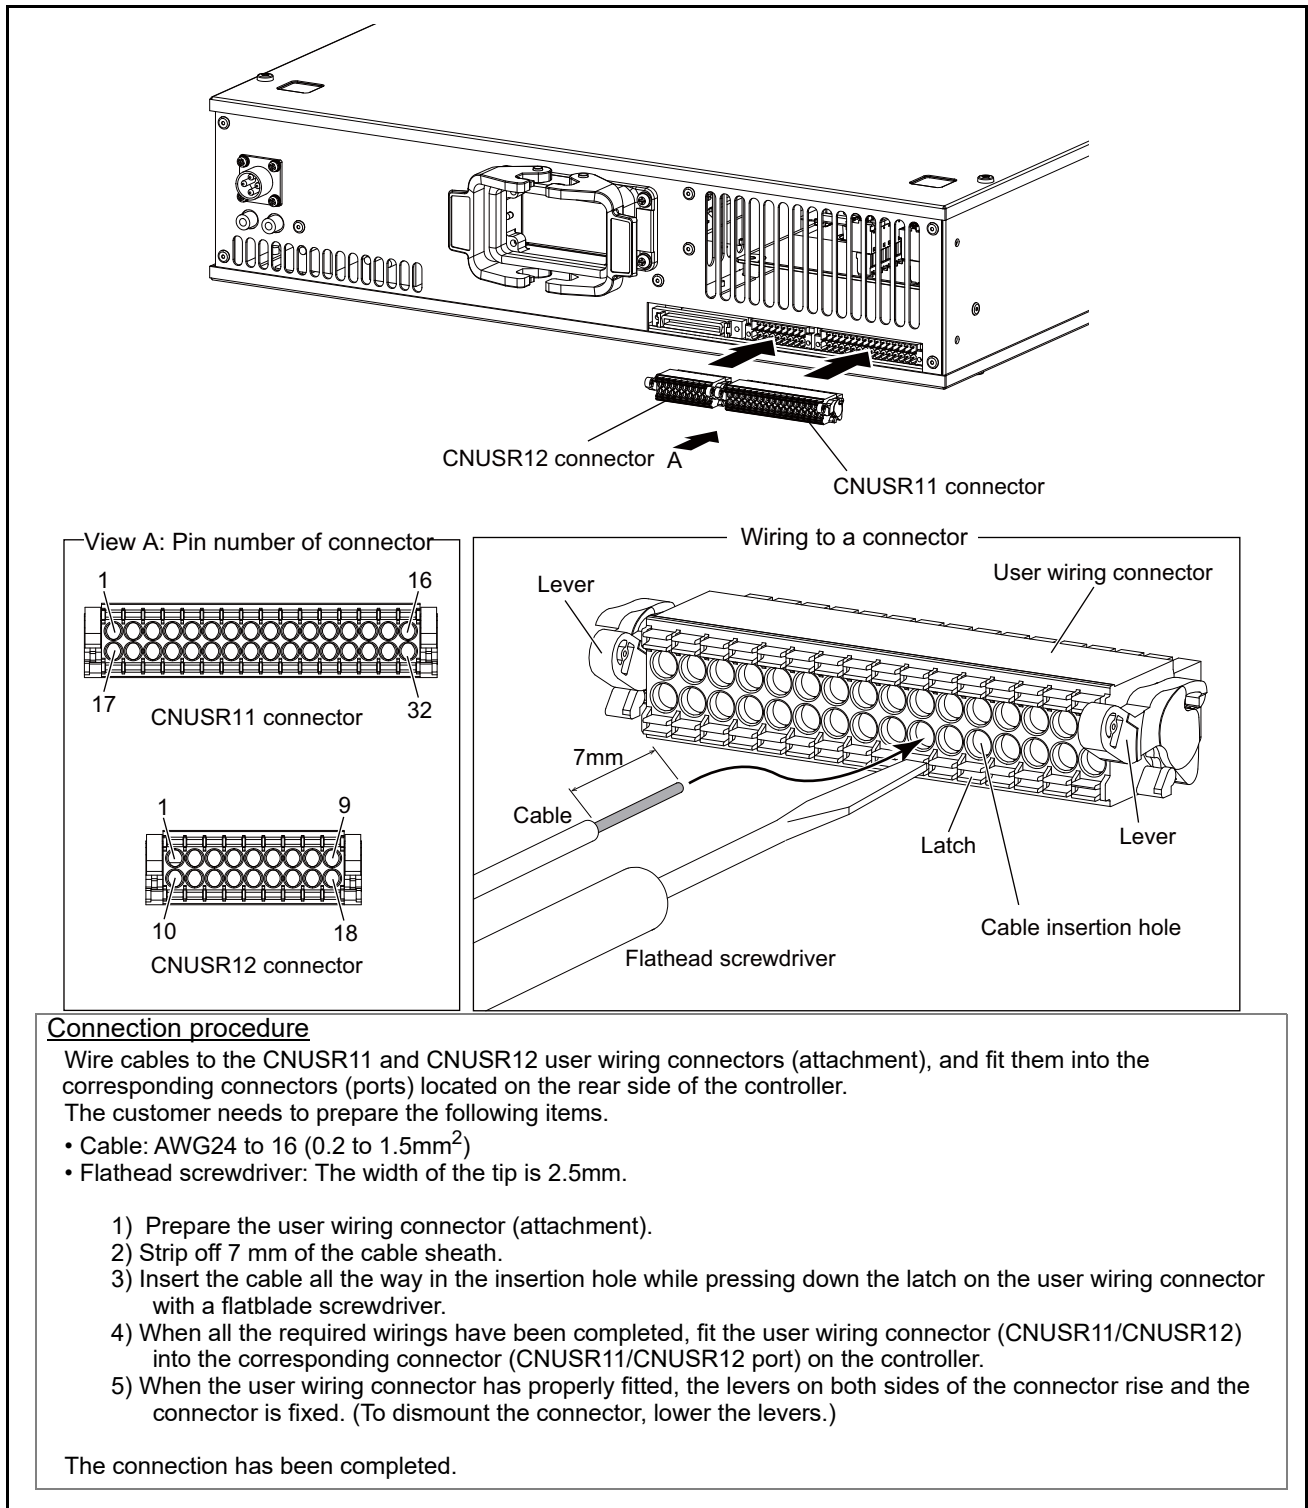

Fig.3-9: Wiring method to the user wiring connector
* Refer to Page 46 "Fig. 3-9: Wiring method to the user wiring connector" for more details about how to wire a connector.